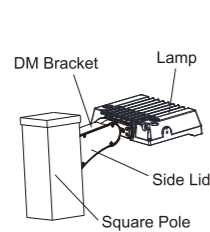

Figure 5.2
Step 2: Put the connected wire into the junction box, then cover the junction box.(Figure 5.2)